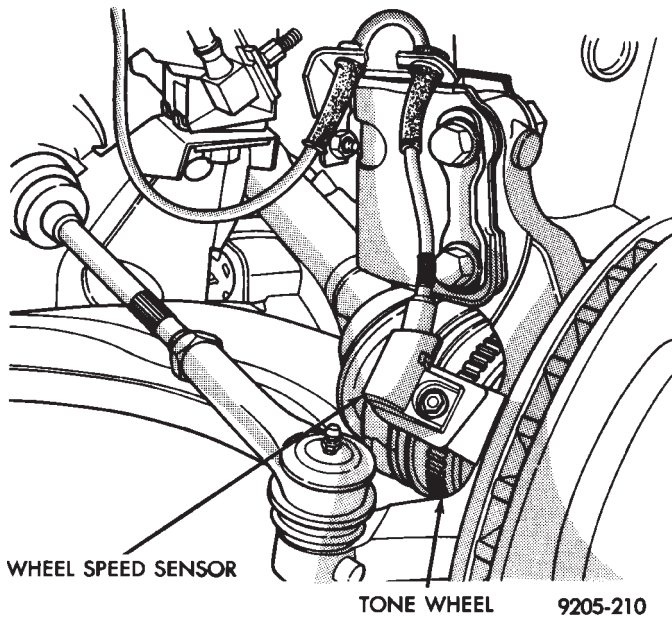

Fig. 4 Front Wheel Speed Sensor FWD/AWD
One Wheel Speed Sensor (WSS), is located at each wheel (Fig. 4, 5 and 6) and sends a small (AC) electrical signal to the control module (CAB). This signal is generated by magnetic induction. The magnetic induction is created when a toothed sensor ring (Tone Wheel) passes by the stationary magnetic (Wheel Speed Sensor). The (CAB) converts the (AC) electrical signal generated at each wheel into a digital signal. If a wheel locking tendency is detected, the (CAB) will then modulate hydraulic pressure to prevent the wheel(s) from locking.
The front Wheel Speed Sensor (Fig. 4) is mounted to a boss on the steering knuckle, for both the Front